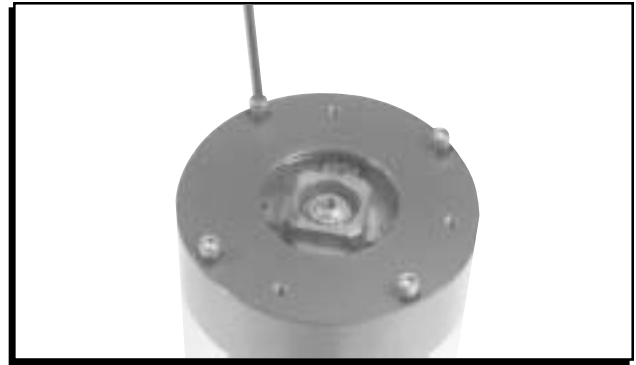

Figure 3 Installing the New Billet Housing.
3. Install the new billet base with the existing four screws with a small amount of Blue Loctite on the threads (Figure 3). Tighten the screws in a criss-cross pattern.